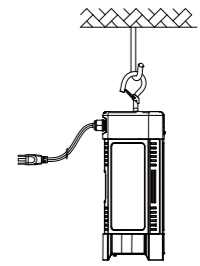

Figure 2
2. Hang on the lamp on the ceiling hook.(Figure 2),